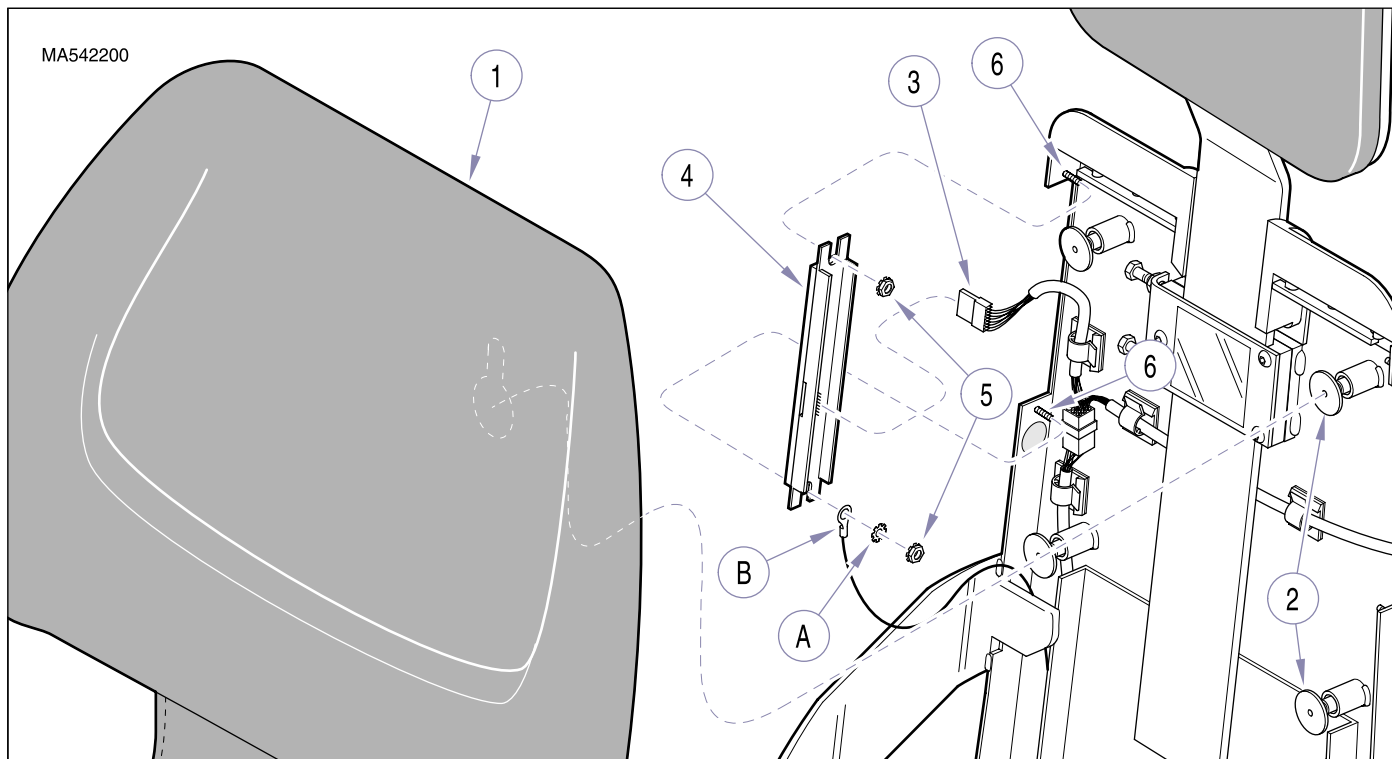

Figure 4-19. Membrane Switch Panel Removal / Installation
- (1) Unplug chair power cord from wall receptacle.
- (2) Remove back upholstery by pulling back upholstery (1, Figure 4-19) approximately 1 in. (2.5 cm) toward head of chair and then lifting upholstery straight off of four locking rings (2).
- (3) Disconnect wire harness (3) from membrane switch panel (4).
- (4) Remove two locknuts (5) and remove membrane switch panel (4) from two studs (6).